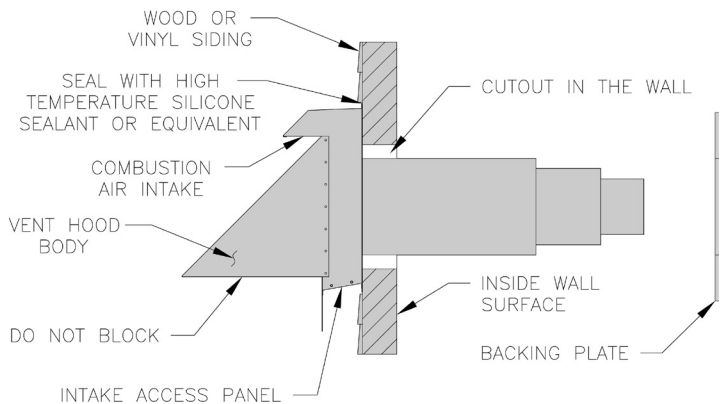

Figure 5-4: Vent Hood Body Installation
NOTE: Secure chimney connector to cast iron smokebox collar with three (3) #10 x ½ in. self drilling hex head TEK screws provided in miscellaneous parts carton. Locate screws around perimeter of connector as shown in Figure 5-4 and approximately ½ in. in from edge. Use drill with 5/16 in. hex bit to drive screws through connector and smokebox collar.
2. Direct Vent Conversion Kit Carton includes (see Figures 5-4 thru 5-6):
6. Wood or vinyl siding should be cut, so that vent hood base plate mounts directly on the wallboard to provide stable support. If siding thickness exceeds ½ in., use a spacer bar or board behind the vent hood mounting (base) plate. See Figure 5-4.